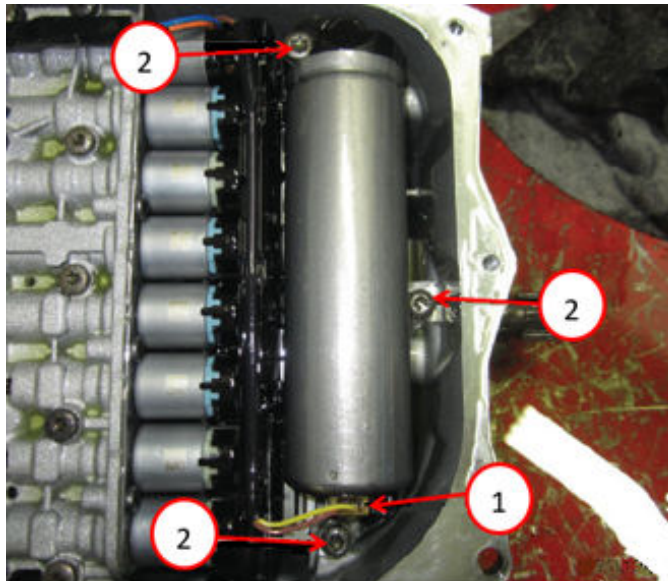

Fig. 48
70. If equipped, install the HIS and bolts Fig. 48.